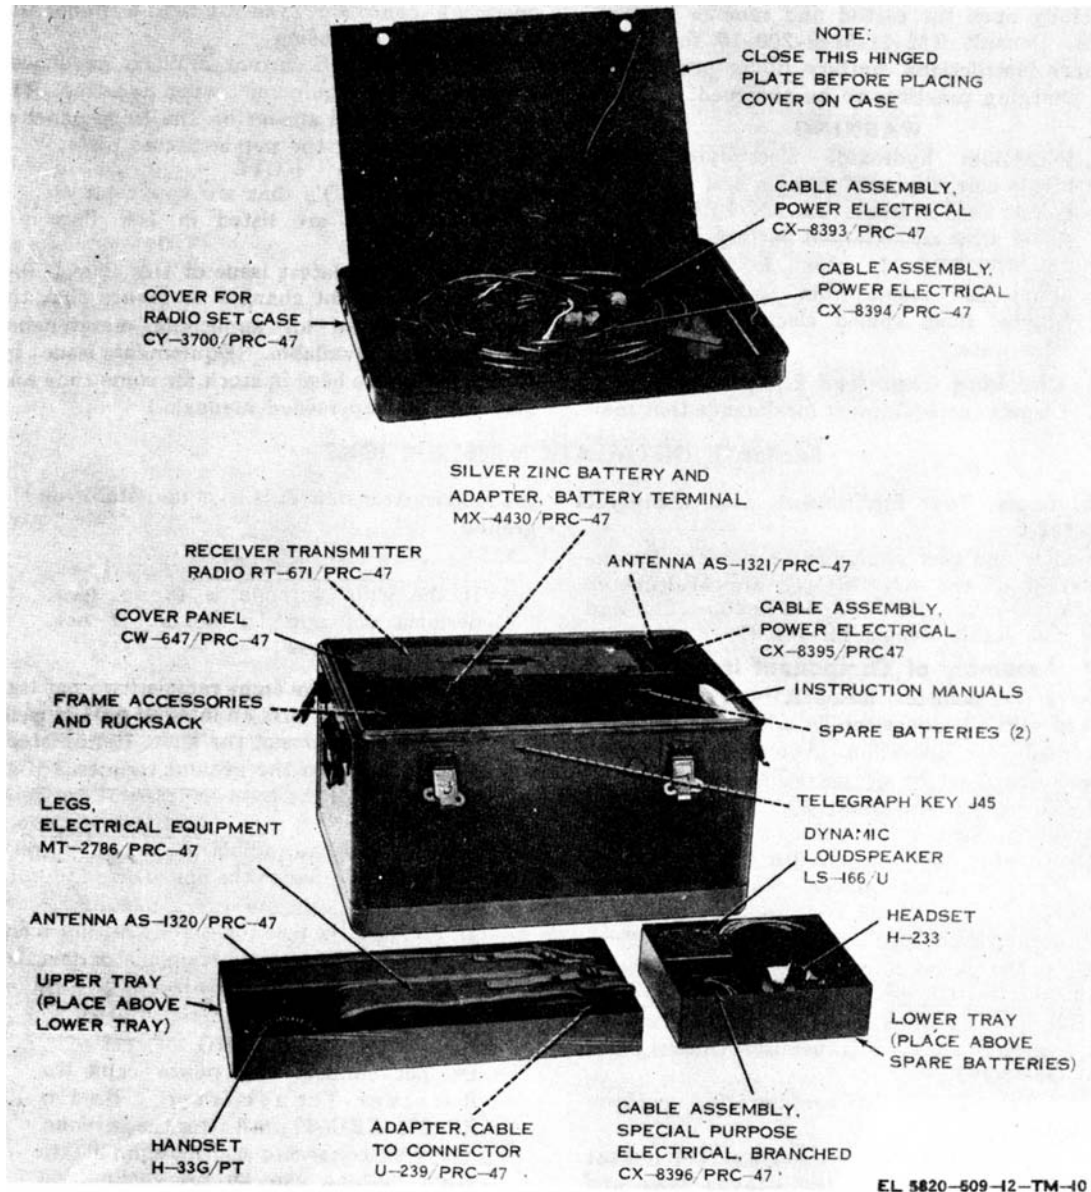

Figure 2-2. Case, Radio Set CY-3700/PR-7. packing details.
b. Running Spares. The chart below lists the running spares for the radio set. The two spare batteries are stored in the radio set case (fig. 2-2); the two fuses and the four lamps are stored inside the receiver-transmitter panel cover (fig. 1-6).
CX-8393/PRC-47 and CX-8394/PRC-47 are coiled inside the cover (fig. 2-2). Release the hinged plate by pressing the push-to-release fasteners.
(a) Remove antenna elements from antenna case (fig. 2-2).
(a) Remove the antenna from the case (fig.2-2).